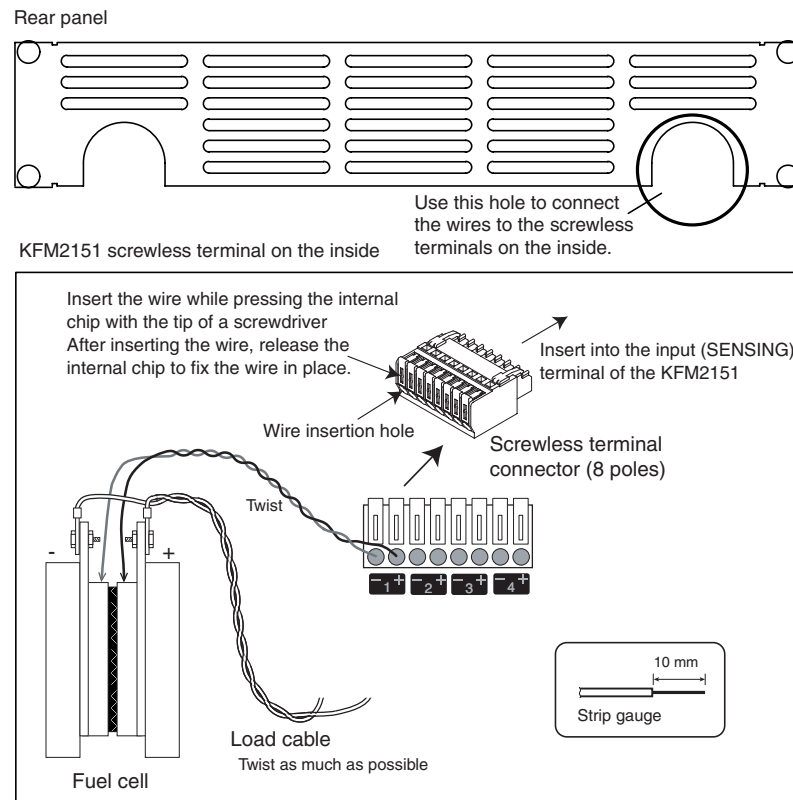

Fig. 3-8 Scanner terminal
- 2 Using a screwdriver, insert the wire into the screwless terminal connector (8 poles) provided as shown in Fig. 3-8.